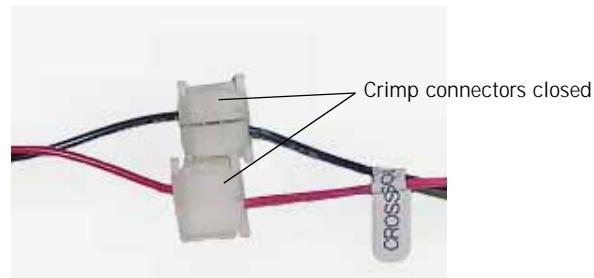

Figure 9-77: Closing the Crimp Connector
4. Fold the crimp connector to close and use pliers to lock the connector together (Figure 9-77). Pull to verify that the connection is tight.